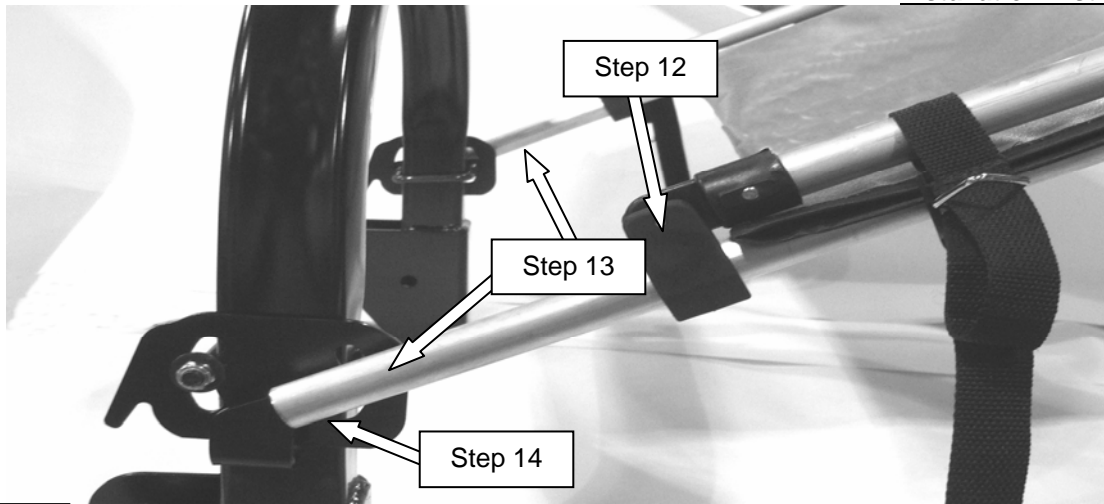

FIGURE 4
12. Position assembly to have folding portion facing up as shown in figure 4.
13. Insert formed aluminum tubes with fabric into the mount brackets (see figure 4).
14. Lightly push tubing to verify that assembly is seated completely in mount brackets (see figure 4).